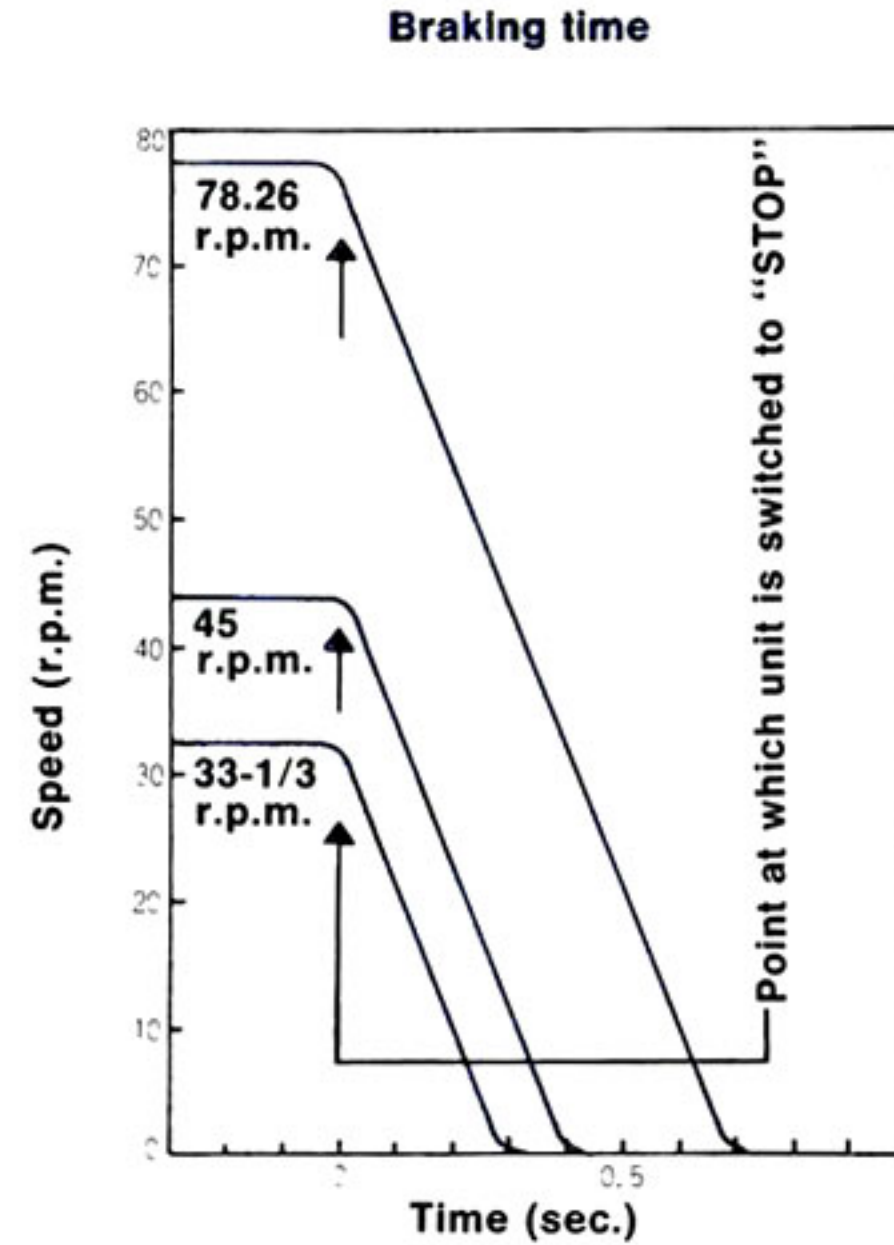

Fig. 12
③ INTEGRATED ELECTRICAL AND MECHANICAL BRAKING (Fig. 12) (a complete stop within 0.3 sec.)